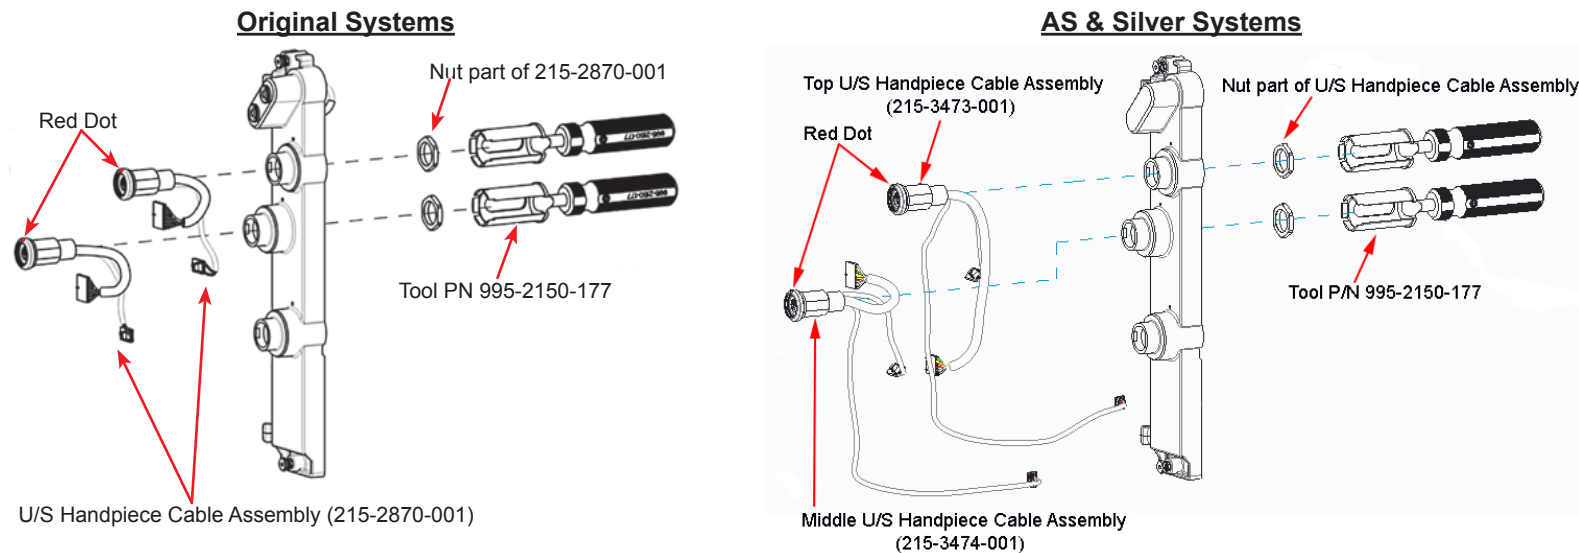

Figure 3-85 U/S Handpiece Cable Assembly Removal
- 63.3 On the connector panel, remove nut securing U/S Handpiece Cable Assembly using tool PN 995-2150-177 as shown in Figure 3-85. NOTE: Tool PN 995-2100-106 used on *Infiniti** systems also works for this connector.